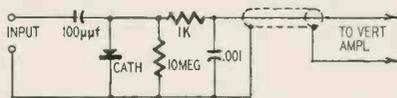

Fig. 6—Diagram of demodulation probe.
**Demodulation Probe:** A demodulation probe (Fig. 6) supplies a video-frequency voltage for the vertical deflection plates of an oscilloscope pro-